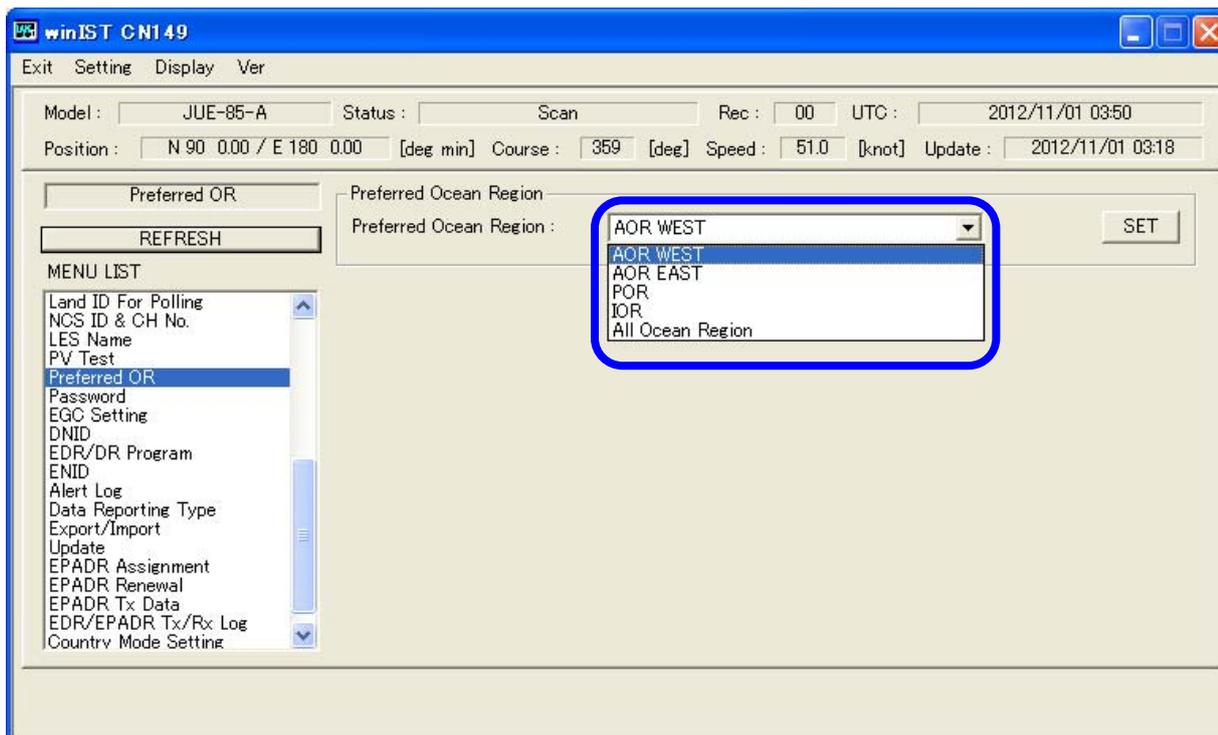

Fig. 4-23-2a [Preferred OR] Selection
4. Operation except [Exit], [Display], and/or [Ver] is not possible while winIST is communicating with INMARSAT terminal(the function in the frame of **Fig. 4-23-2a [Preferred OR] Selection screen** cannot be operated).